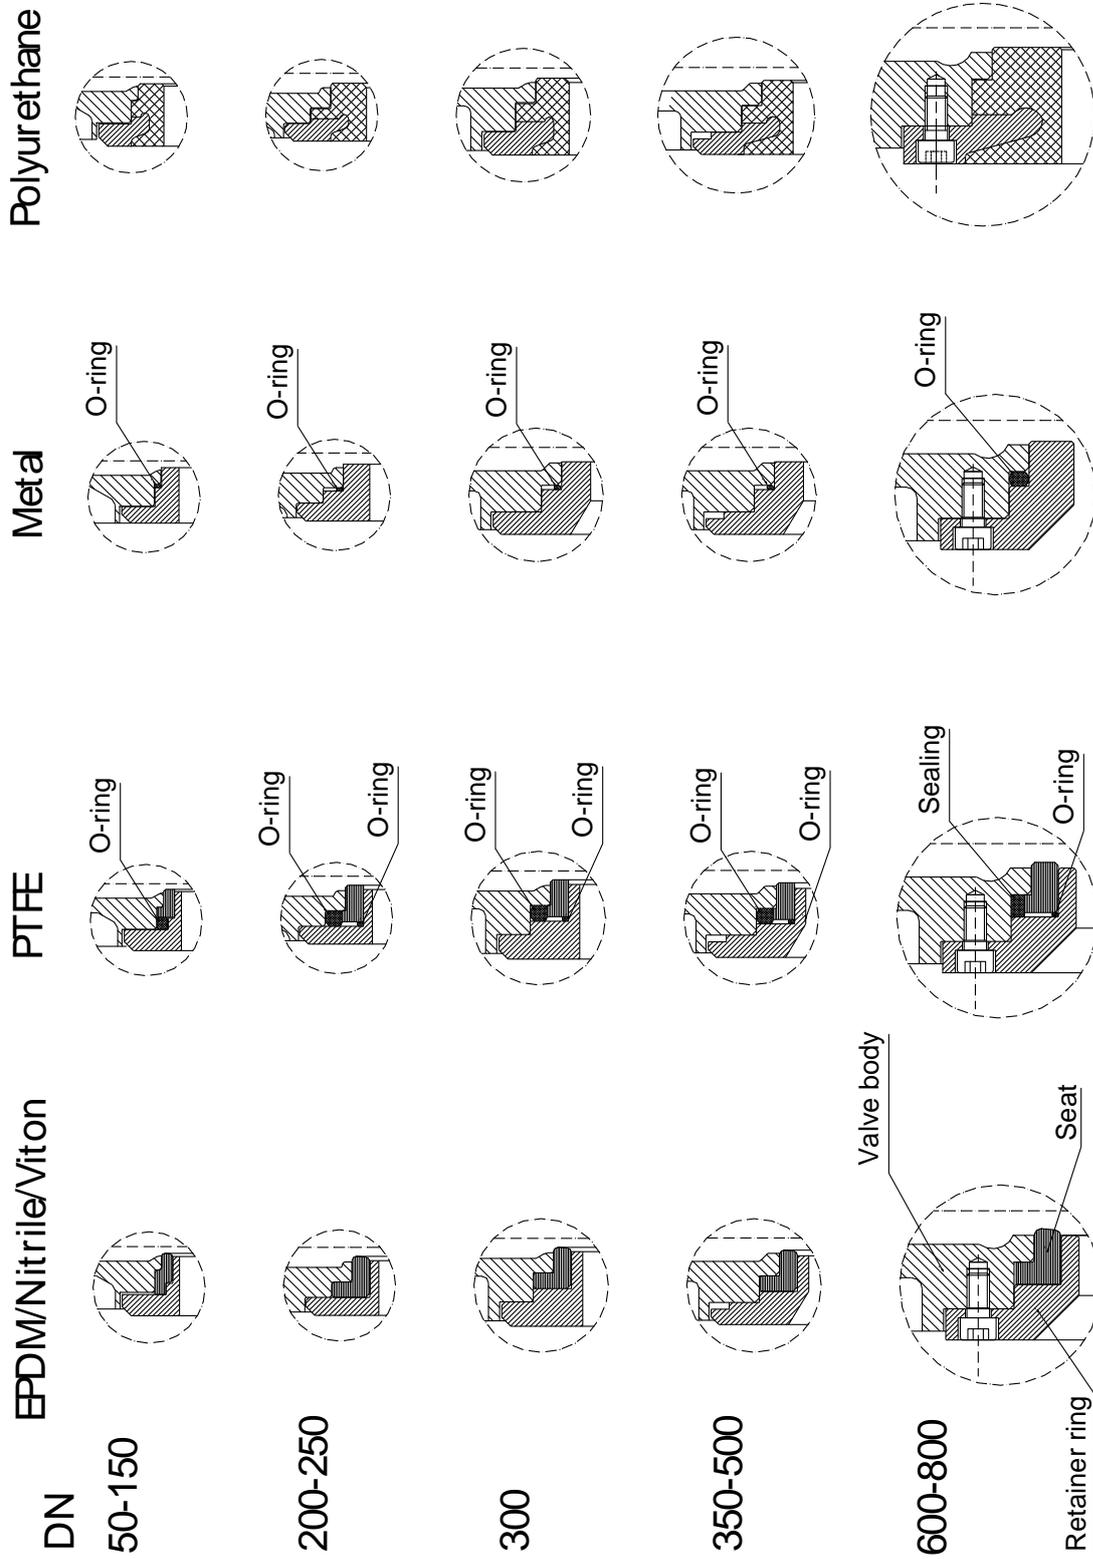

Figure 3
2. Loosen the locking screws that the retainer ring (12) is locked with.
3. Lift of the retainer ring (12). If the retainer ring is stuck, use a screw driver or similar and bend carefully between the retainer ring and the valve body in several places around the bore until the retainer ring is loose.
4. Check the gate (6) for damages such as dents and scrapes. If the gate is damaged it can wear out the box packing (9) and the seat (13), causing leakage. Stafsjö recommends changing the gate if it is damaged to ensure the function of the valve.
6. Install a new seat (13) on the retainer ring (12) and place the retainer ring in the valve body (10a). For PTFE seat, o-rings must also be installed, see fig. 3. Lubricate the seat and the o-rings with a synthetic lubricator to make the installation easier.
7. Lock the retainer ring (12) with the locking screws. Note! The function of the screws is only to keep the retainer ring in place. The retainer ring function will be activated when the valve is installed in a system between pipe flanges.